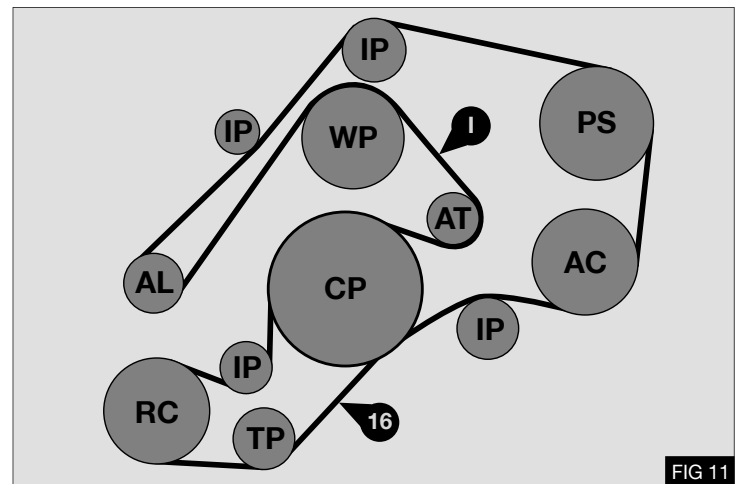

FIG 11
1. Fit supplied poly groove drive belt ⑮ - Fig.11